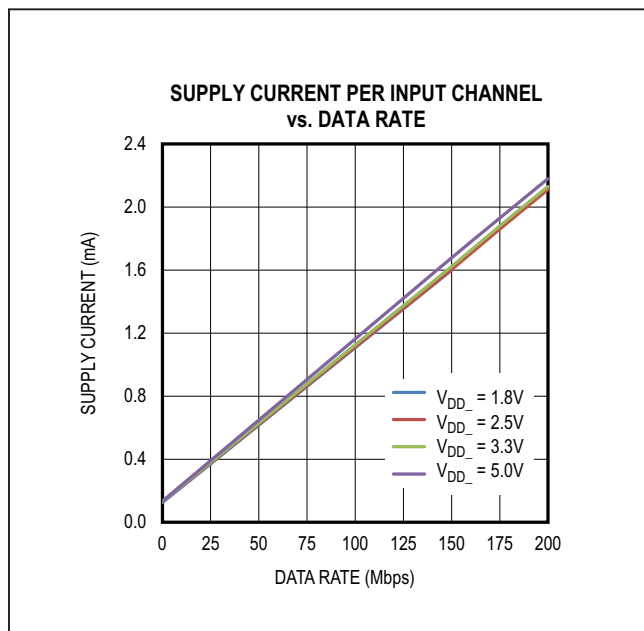
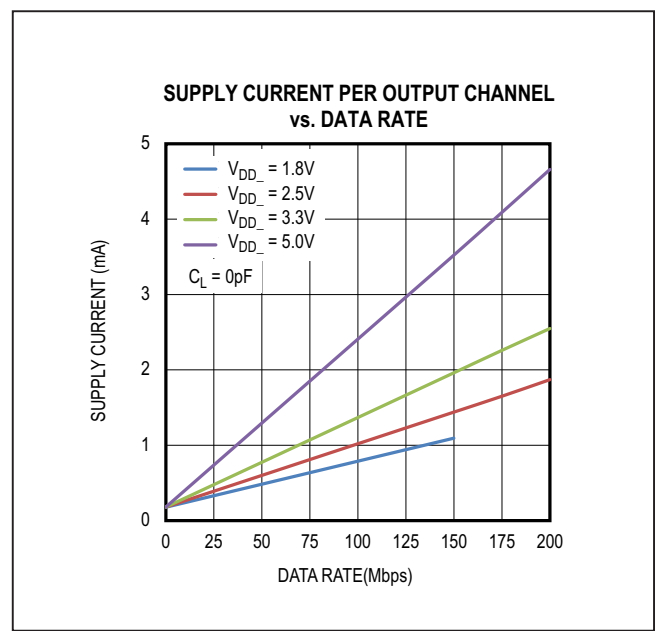

Figure 9. Supply Current Per Input Channel (Estimated)
Figure 10. Supply Current Per Output Channel (Estimated)
The required current for a given supply (V_{DDA} or V_{DDB}) can be estimated by summing the current required for each channel. The supply current for a channel depends on whether the channel is an input or an output, the channel’s data rate, and the capacitive or resistive load if it is an output. The typical current for an input or output at any data rate can be estimated from the graphs in Figure 9 and Figure 10. Please note the data in Figure 9 and Figure 10 are extrapolated from the supply current measurements in a typical operating condition.
The total current for a single channel is the sum of the “no load” current (shown in Figure 9 and Figure 10) which is a function of Voltage and Data Rate, and the “load current,” which depends on the type of load. Current into a capacitive load is a function of the load capacitance, the switching frequency, and the supply voltage.
- Channel 1 is an input channel operating at 2.5V and 20Mbps, consuming 0.33mA, estimated from Figure 9.
- Channel 2 and 3 are input channels operating at 2.5V with DC signal, consuming 0.13mA, estimated from Figure 9.
- Channel 4 is an output channel operating at 2.5V and 100Mbps, consuming 1.02mA, estimated from Figure 10.
- Channel 1 is an output channel operating at 3.3V and 20Mbps, consuming 0.42mA, estimated from Figure 10.
- Channel 2 and 3 are output channels operating at 3.3V with DC signal, consuming 0.18mA, estimated from Figure 10.
- Channel 4 is an input channel operating at 3.3V and 100Mbps, consuming 1.13mA, estimated from Figure 9.